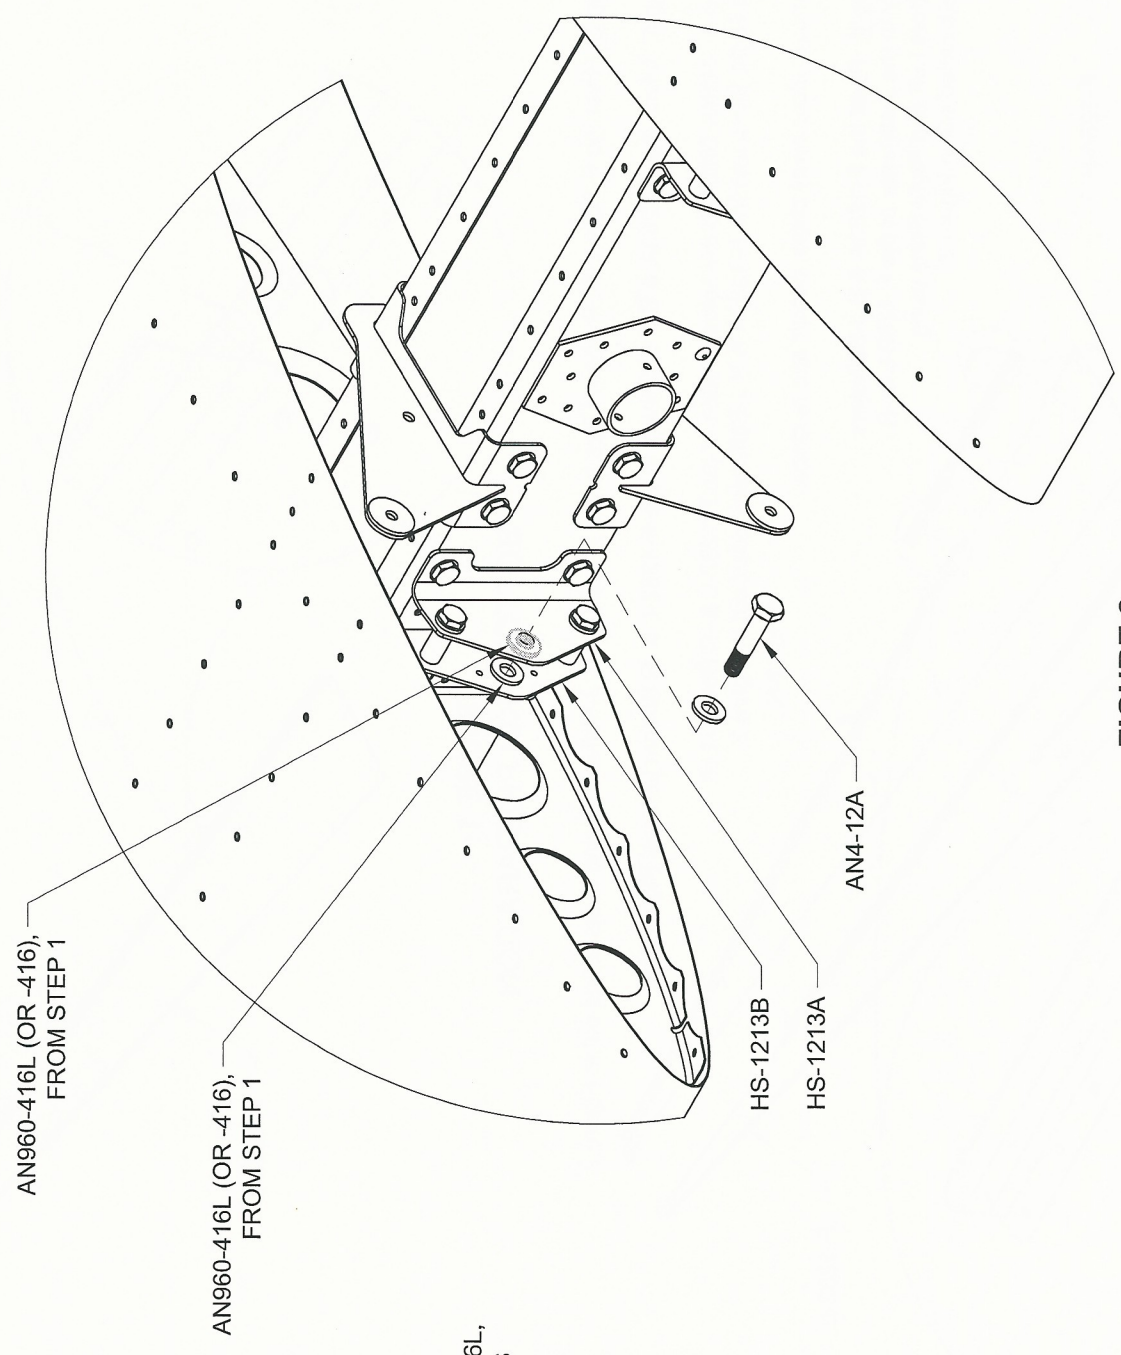

FIGURE 2:
Step 2: Temporarily super glue the washers, determined in Step 1, to the outboard side of the HS-1213A Inboard Hinge Bracket and the inboard side of the HS-1213B Outboard Hinge Bracket. Be sparing with the super glue, contact only the washer and hinge bracket. Apply a minimal amount of oil to the bolt shank, then locate the washers using the bolt called out in Figure 2.